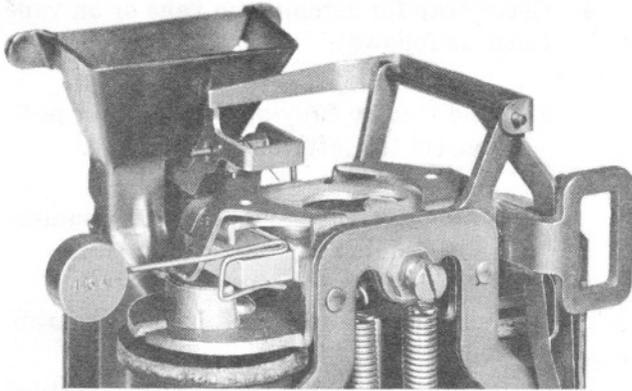

Fig. 8 — Bias Margin Test
1. To test in collect direction, place a 146A gauge on left side of armature (see Fig. 8).